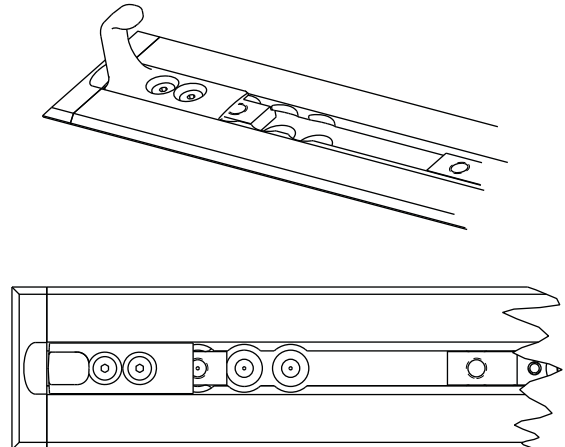

Figure 11: Secure Safety Hook
35. Using a 5/32" Allen wrench, install two flat head cap screws (0001-194-000) to secure the safety hook to the floor plate assembly (Figure 11).